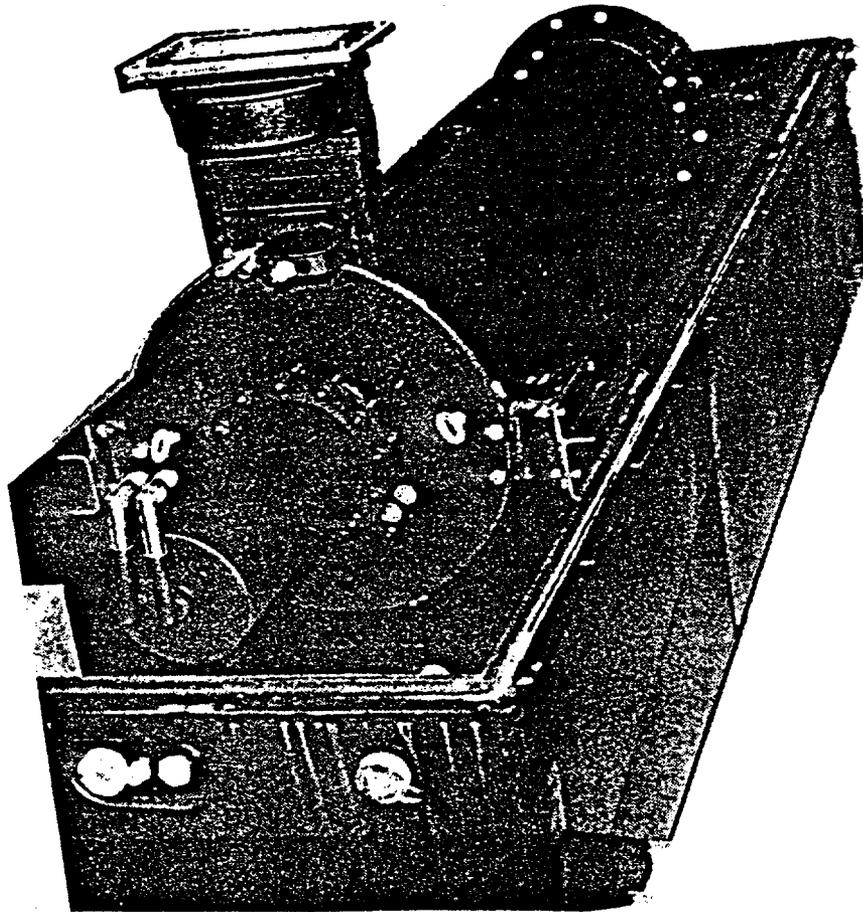

FIGURE 1. THE KLYSTRON IN ITS SHIPPING CONTAINER
- 1.2** Remove the bolts from the two side rails. The Klystron can now be raised to vertical. See Figures 1, 2, and 3.